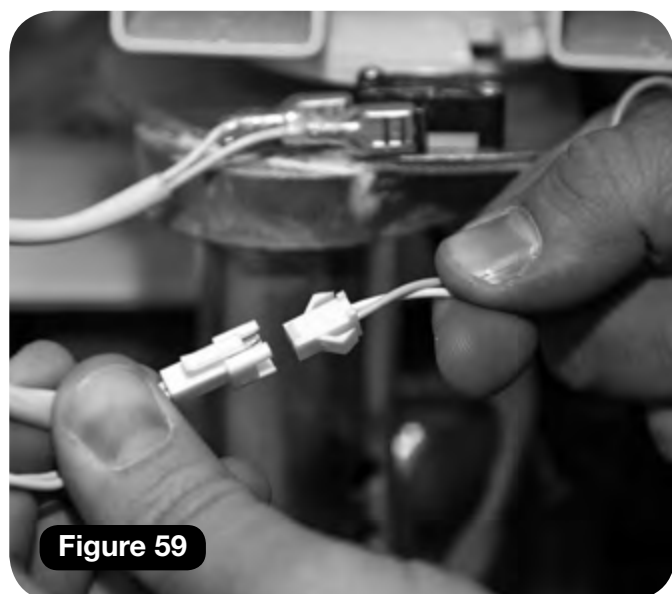

Figure 59
- Connect the key switch loom from the power pack (orange and green) to the swivel switch loom connector (2 x white). **(Figure 59)**.